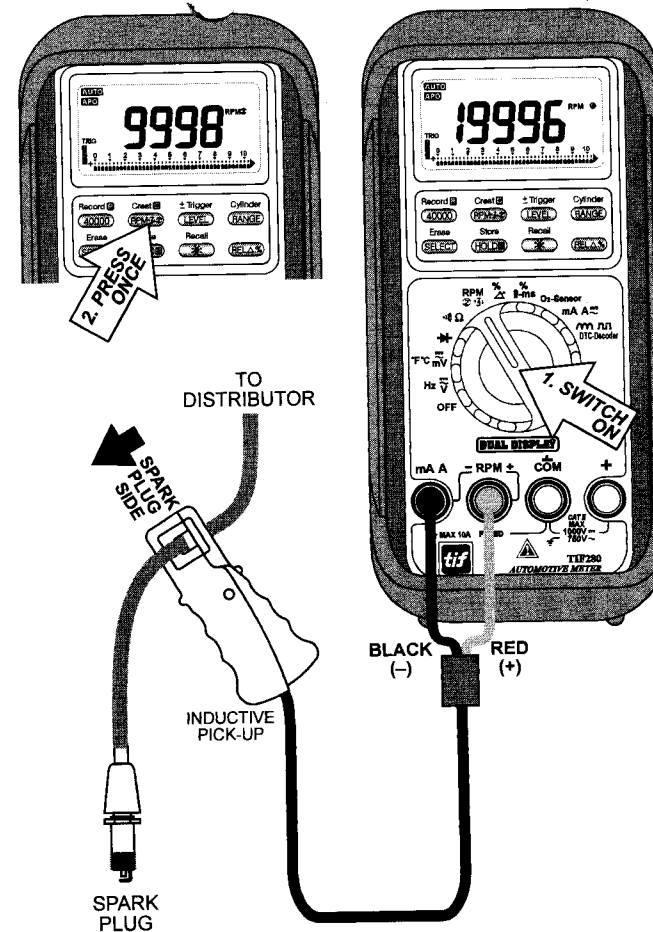

FIG 8. RPM FUNCTION (MAIN DISPLAY)
- 4) Clamp the inductive pick up to a spark plug wire with the arrow sign facing the spark plug. See **FIG 8**. Make sure that the pick up jaws are completely closed